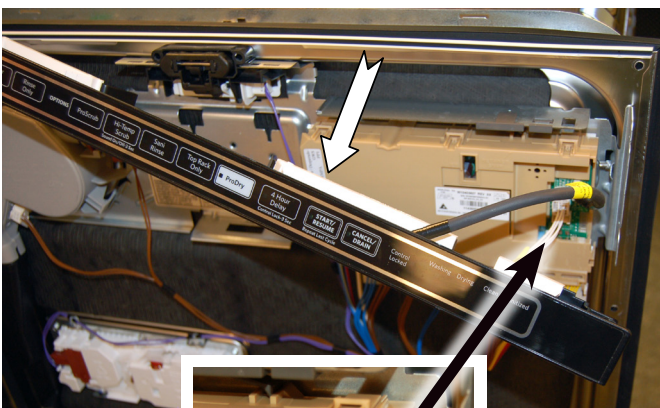

Figure 2
4. Disconnect the user interface wiring harness, and on some models, the LED status light harness, see figures 2 and 3.